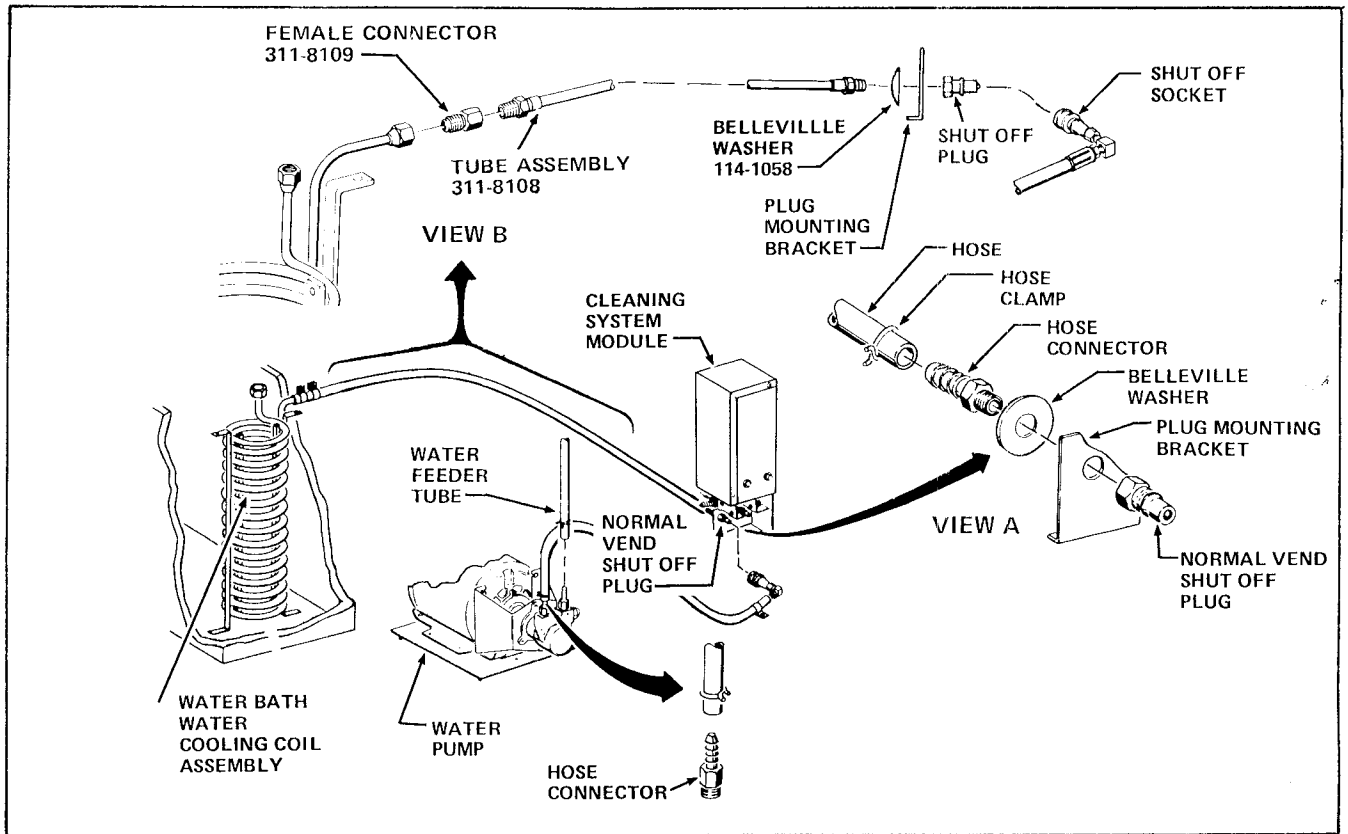

FIGURE 1
6. Drain the water from the Water Feeder Tube by unclamping and removing the Tube at the Water Pump and inserting the Tube into the Water Bath Tank. After draining, replace the Tube on the Water Pump and clamp in place. See Figure 1 or 2.
8. Unclamp and remove from the rear of the Normal Vend Shut-Off Plug on the Cleaning System Module the hose that leads to the Water Cooling Coil of the Water Bath. See Figure 1.
9. Remove the Hose Connector, the Belleville Washer and Normal Vend Shut-off Plug from the Cleaning System Module. Keep the Normal Vend Shut-Off Plug for installing the Kit. See Figure 1, View A.